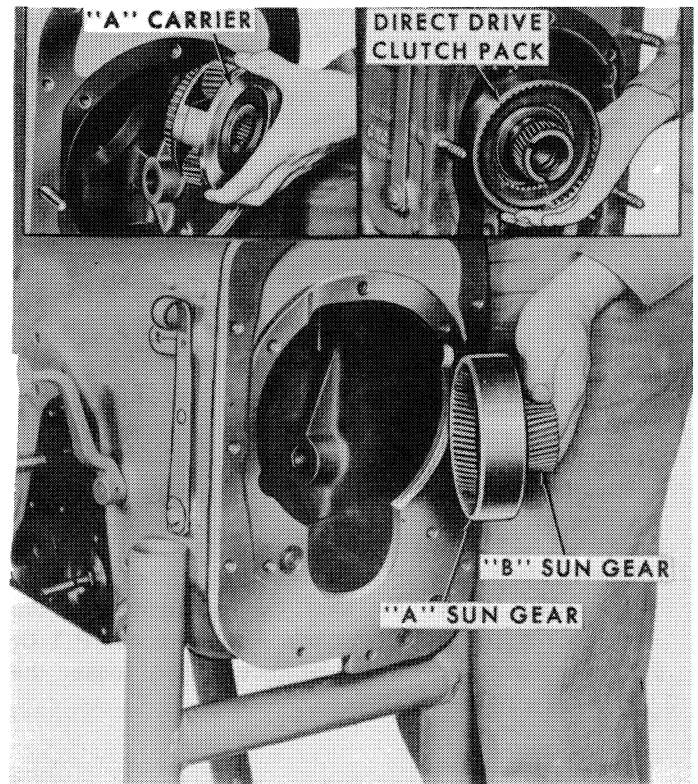

Figure 53
15. Remove the "B" sun gear and "A" ring gear, shown in Figure 53. The "A" carrier and direct drive clutch can now be removed from the transmission input shaft.